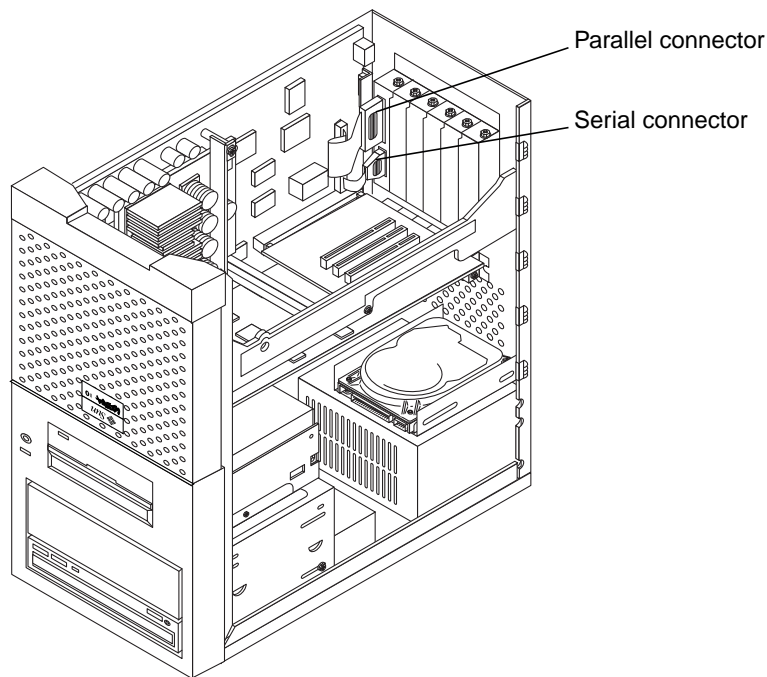

FIGURE 6-4 Removing and Replacing the Serial/Parallel Cable Assembly
2. Remove the serial/parallel cable assembly as follows (FIGURE 6-4):
1. **Replace the serial/parallel cable assembly as follows (FIGURE 6-4):**